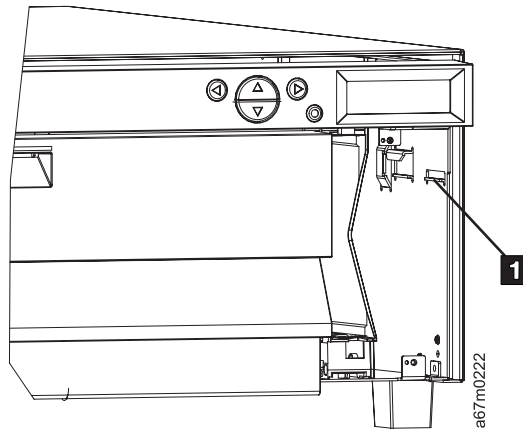

Figure 95. Bar Code Scanner Guide
- 7. Slide the plastic tab on the right side of the I/O door bracket (see Figure 95 on page 215) into the metal guide inside the library.